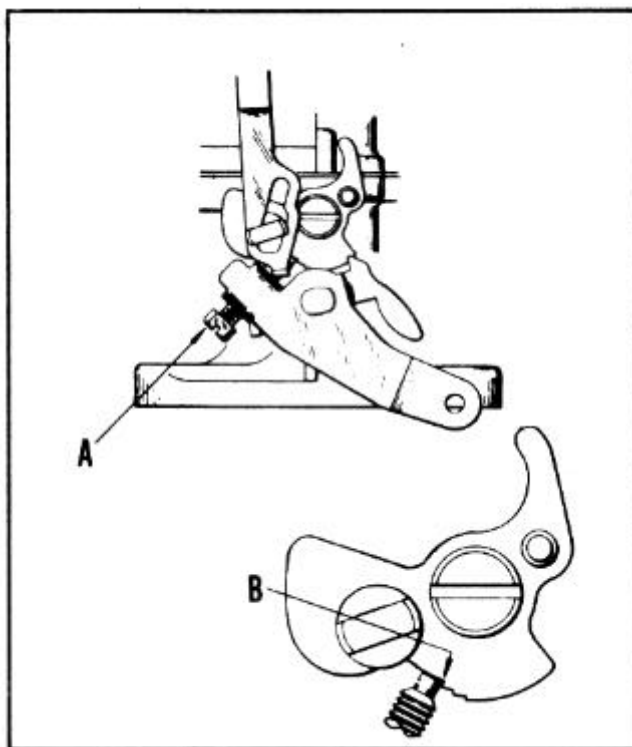

FIGURE 11
throttle lever adjusting screw (A), Figure 11, until it just seats against the cam.
3. Hold throttle lever closed and pull cam back until low step is against but not on set screw (B), Figure 11.